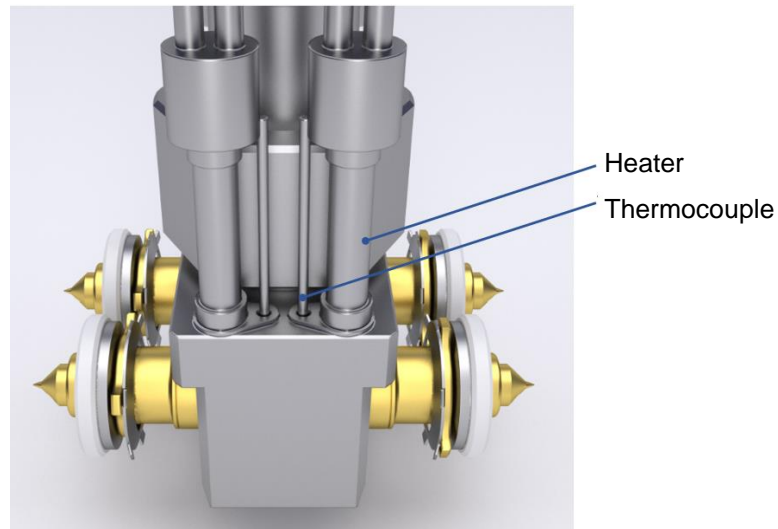

Figure 3 Ultra SideGate Inline Nozzle Head Assembly
The Ultra SideGate Inline configuration has (4) heaters in the nozzle head. The number of thermocouples depends on the level of control requested by the molder. (Figure 3) Individual control of the tips can be used to improve balance in applications with high demands for balance. This does require additional zones in the temperature controller.